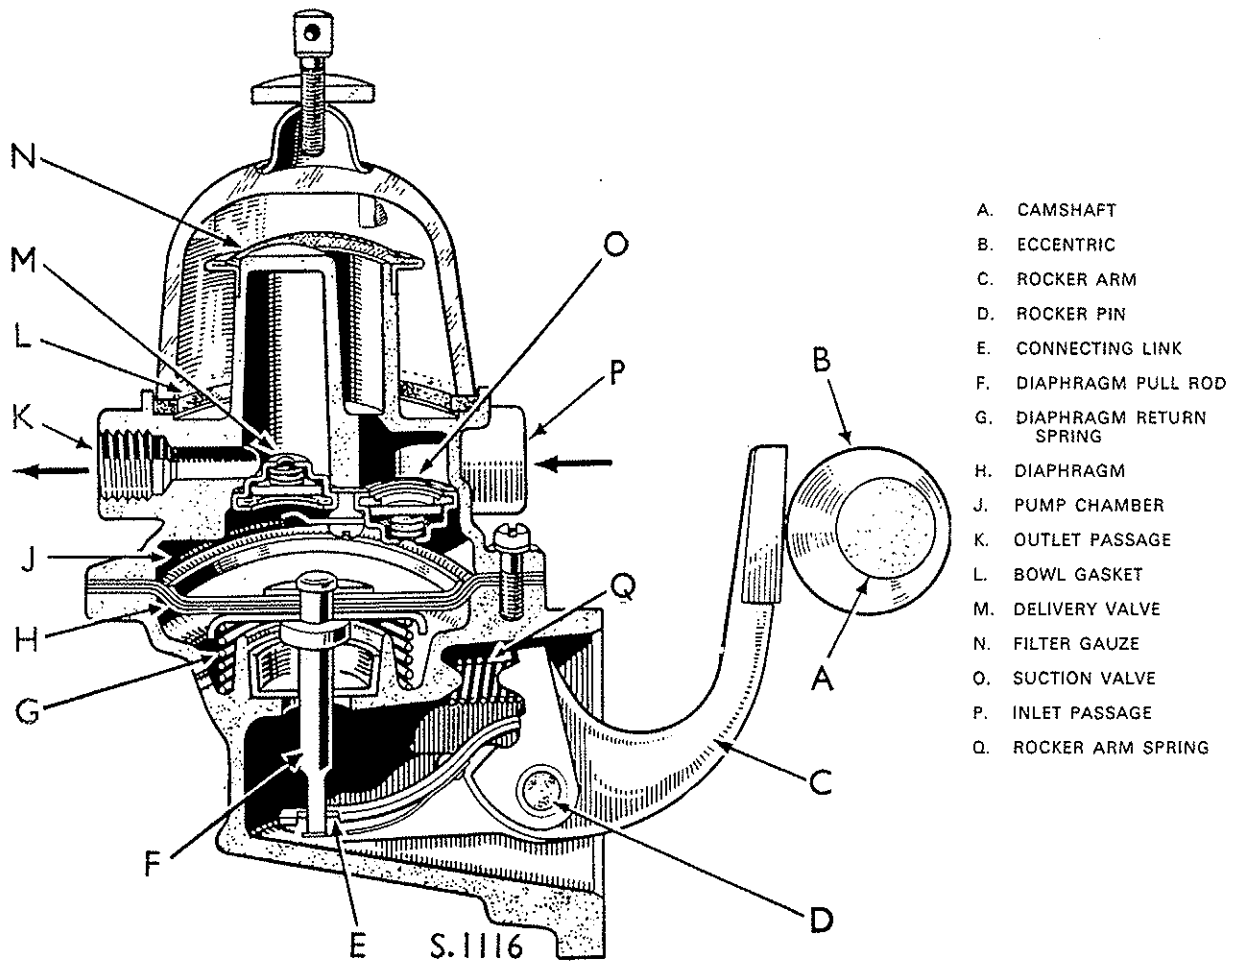

Fig. C.2. Sectional view of the fuel lift pump
### Fuel Lift Pump (see Fig. C.2).
3. From the foregoing description of the operation of the pump it will be appreciated that the pressure of fuel on the carburettor is determined by the spring (G, Fig.C.2), and the further this spring is compressed the greater will be the pressure. All parts of the pump and the cylinder block are machined to definite limits. It will, however, be appreciated that circumstances might arise in which all the lower limits exist on one particular engine, with the result that the spring will be compressed on the downward stroke to a greater extent than is normal, resulting in an excess pressure at the carburettor.